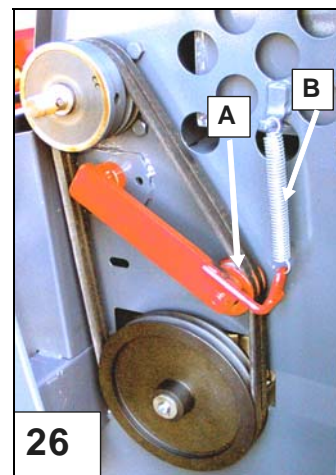

Fig. 26. V-belts
7.3 Automatic tightening of the angular gear V-belts, Fig. 26